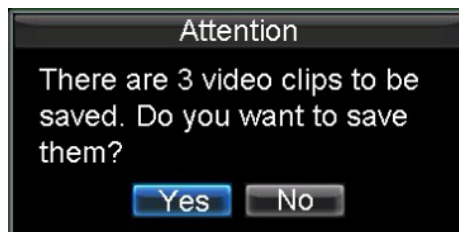

Figure 6. Video Clips Saving Prompt
4. Click the *Quit Playback* button to exit from the Playback interface. You'll then be prompted to save the clips, as shown in Figure 6.
5. Press the *ESC* button to exit from the Playback interface. You'll then be prompted to save the clips, as shown in Figure 6.